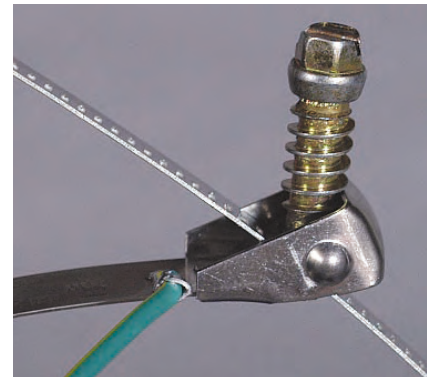

FIGURE 1
- 2** Once the compressor is confirmed as correct for this compressor heater, open the heater by lifting the screw and remove the band from the buckle (**See Fig.1**). Then place the compressor heater around the compressor housing at or below the oil level near the bottom of the compressor (**See Fig. 3**).